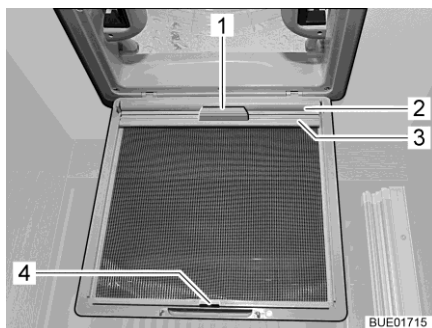

Fig. 113 Blind (skylight)
- Using the handle (Fig. 113,1), pull out the blind (Fig. 113,2) and hook the retainer (Fig. 113,3) into the hook (Fig. 113,4) on the insect screen.
- Release the retainer (Fig. 113,3) from the hook (Fig. 113,4) and, using the handle (Fig. 113,1), slowly return the blind (Fig. 113,2).